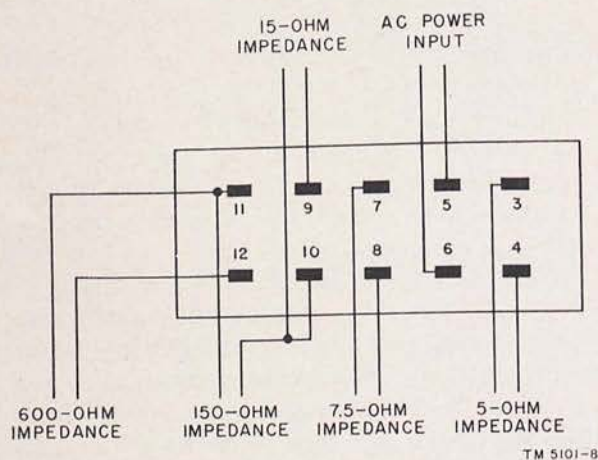

Figure 8. Output receptacle connections for plug J2.
Connection to the plug J2 is made by means of the receptacle supplied with each amplifier. Figure 8 shows the proper wiring of the output receptacle for plug J2 for the use of various load impedances. The following table gives the line connections for loads of various impedances.
b. Ac Power Supply. The ac line is connected to terminals 5 and 6 of the output receptacle (on output plug J2). Figure 8 shows the proper connections of the ac power line to the output receptacle for plug J2. To insure a low hum level the ac supply circuit should be shielded and the shield grounded to a common ground bus bar.